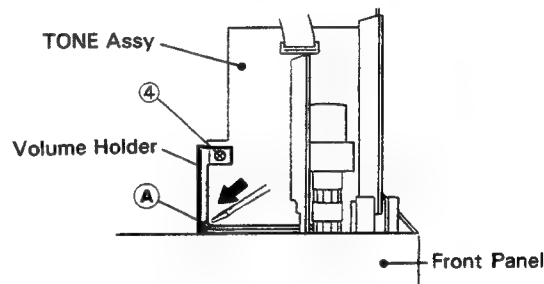

Fig. 5-4
2. Remove the screws ① fixing both front panel L/R sides and the screw ② fixing the front panel bottom side.
4. Remove the MASTER VOLUME knob and screw ③.
5. Remove the screw ④ and then remove the volume holder.
The volume holder can be removed by pressing the hook part ⑤ of the front panel with a screwdriver to disengage the lock. (Refer to Fig. 5-4)